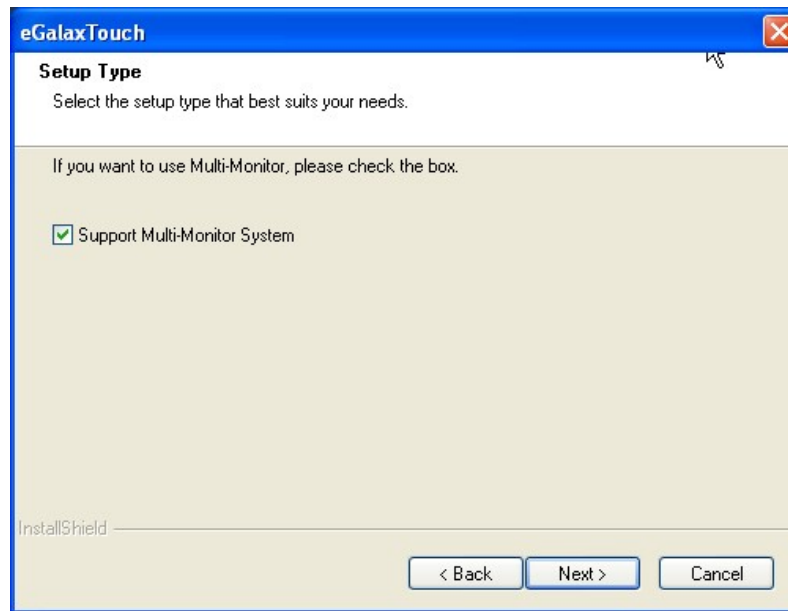

Figure 6-40: Setup Type – Supports Multi-Monitor System
Step 8: Check the box to support multiple monitors and click **Next** to continue (**Figure 6-40**).